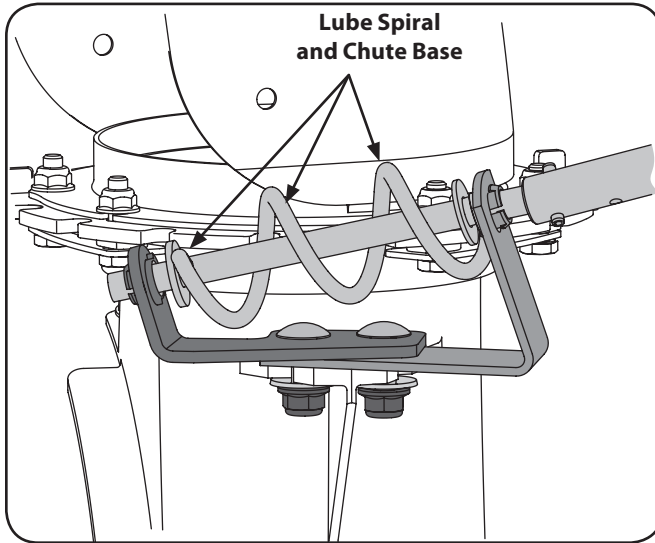

Figure 6-1
The spiral on the end of the chute crank flex shaft and the base of the discharge chute itself should be lubed with multi-purpose automotive grease once per season. See Figure 6-1.
1. Loosen, but do NOT remove the two flange nuts that secure the support bracket to the snow thrower housing. See Figure 6-1.